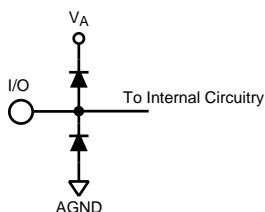

Figure 2.
- (1) The inputs are protected as shown below. Input voltage magnitudes above V_A or below GND will not damage this device, provided current is limited per Note 4 of the Absolute Maximum Ratings Table. However, errors in the A/D conversion can occur if the input goes above 2.6V or below GND as described in the Operating Ratings section. See Figure 2.
- (2) With a full scale differential input of $2V_{P-P}$, the 14-bit LSB is $122.1\text{ }\mu\text{V}$.
- (3) Typical figures are at $T_A = 25^\circ\text{C}$ and represent most likely parametric norms at the time of product characterization. The typical specifications are not guaranteed.
- (4) Parameters specified in dBFS indicate the value that would be attained with a full-scale input signal.
- (2) With a full scale differential input of $2V_{P-P}$, the 14-bit LSB is 122.1 μV .
- (4) This parameter is guaranteed by design and/or characterization and is not tested in production.
- (5) I_{DR} is the current consumed by the switching of the output drivers and is primarily determined by load capacitance on the output pins, the supply voltage, V_{DR} , and the rate at which the outputs are switching (which is signal dependent). $I_{DR} = V_{DR}(C_0 \times f_0 + C_1 \times f_1 + \dots C_{13} \times f_{13})$ where V_{DR} is the output driver power supply voltage, C_n is total capacitance on the output pin, and f_n is the average frequency at which that pin is toggling.